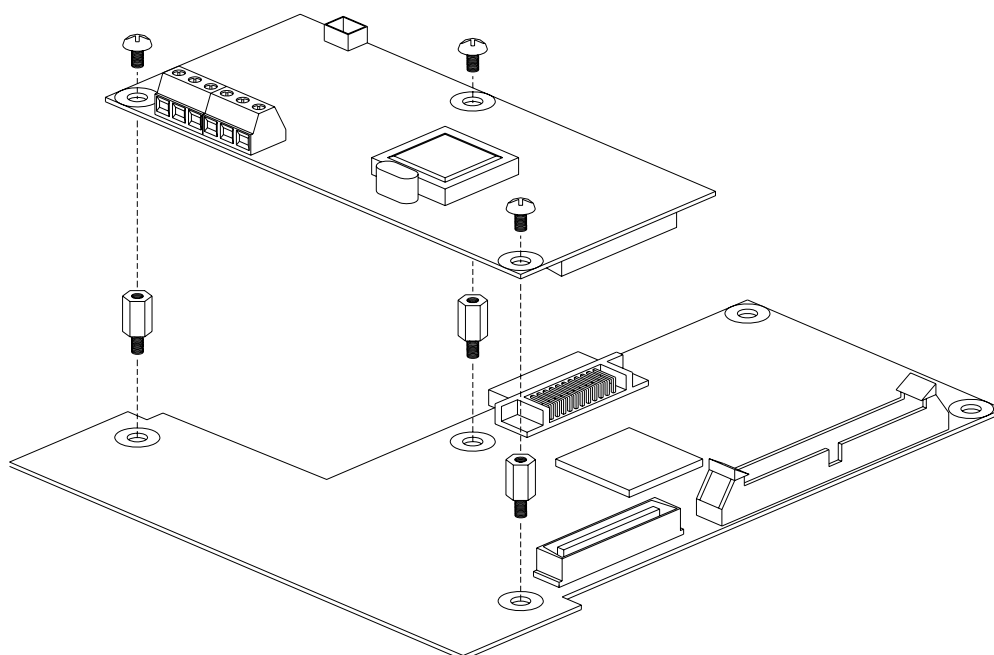

Figure 1. SV-iP5A RS485/Modbus-RTU Option Card Installation
- ① Connect RS485/Modbus-RTU communication card connector to the option connector inside the inverter control board. (See Figure 1, 2). Make sure that the support is well connected. If the position of the support is not right, it means that the option card is not connected right.
- ② Power up the inverter after verifying the option card is installed properly.
- ③ When powering up the inverter, CPU LED is blinking per second after all LEDs blink one after another.
- ④ If "CPU LED" is not blinking, power down the inverter swiftly and check for the proper installation of the option card.